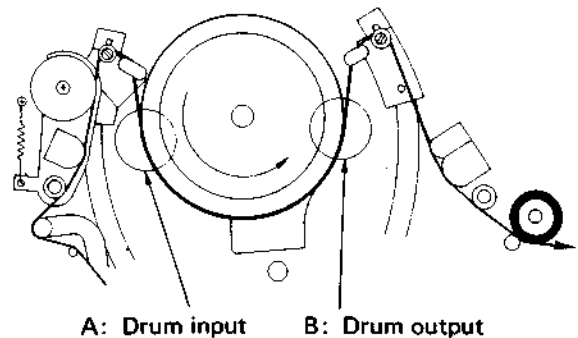
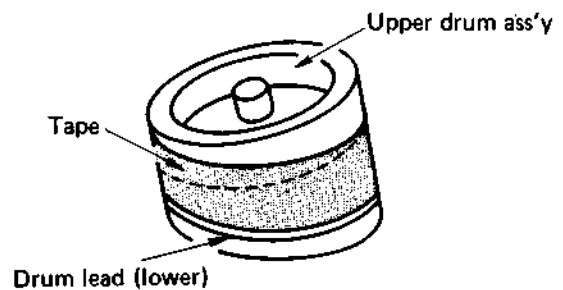

Fig. 5-27 Tape transport check
Fig. 5-28 Drum lead check-1
2. During Play mode, observe tape at the input and output portions (A and B in Fig. 5-27) of the head drum lead. Confirm that the tape slips neither upward nor downward with respect to the lead as shown in Fig. 5-28.